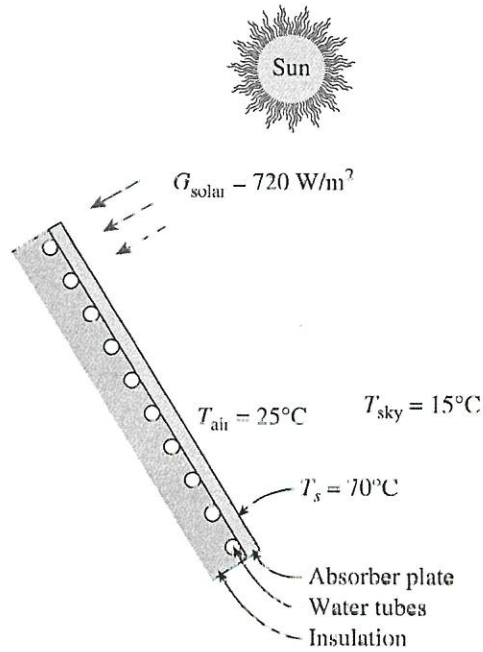

Figure 5
- (b) The absorber surface of a solar collector (Figure 5) is made of aluminum coated with black chrome ($\alpha_s = 0.87$ and $\epsilon = 0.09$). Solar radiation is incident on the surface at a rate of 720 W/m^2 . The air and the effective sky temperatures are at $25 \text{ }^\circ\text{C}$ and $15 \text{ }^\circ\text{C}$ respectively and the convection heat transfer coefficient is $10 \text{ W/m}^2\cdot\text{K}$. If the absorber surface temperature is at $70 \text{ }^\circ\text{C}$, determine the net rate of solar energy delivered by the absorber plate to the water circulating behind it.